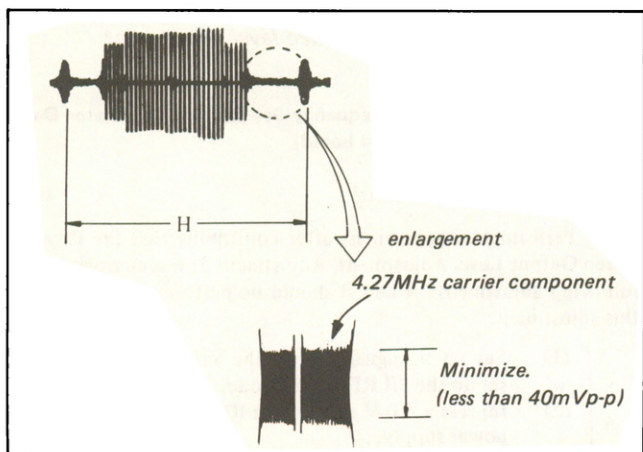

Fig. 4-36. 4.27 MHz carrier leak adjustment
- (1) Supply the color bar signal and set up the RECORD mode.
- (2) Connect the oscilloscope to pin 24 of IC2.
- (3) Adjust RV8 for minimum 4.27 MHz carrier component. (See Fig. 4-36.)